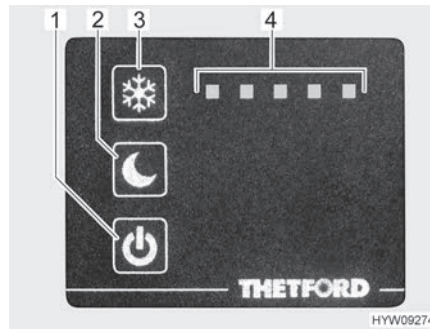

Fig. 67 Operating controls (refrigerator)
Switching on: ■ Press on/off button (Fig. 67,1) and hold for approximately 2 seconds. The blue indicator lamp shows that the refrigerator is working. The display (Fig. 67,4) shows the set cooling level. This display is dimmed after approximately 10 seconds.
Switching off: ■ Press on/off button (Fig. 67,1) and hold for approximately 2 seconds. The blue indicator lamp will go out slowly.
Setting the cooling level: ■ Press the temperature setting button (Fig. 67,3) and hold for approximately 1 second. The currently set cooling level (Fig. 67,4) is displayed.
■ Press the temperature setting button (Fig. 67,3) as often as necessary until the desired cooling level is reached.
Switching on the night mode: ■ Press the night mode button (Fig. 67,2). The blue indicator lamp shows that the night mode is active.
Switching off the night mode: ■ Press the night mode button (Fig. 67,2). The blue indicator lamp will go out. The refrigerator is working in normal mode again.